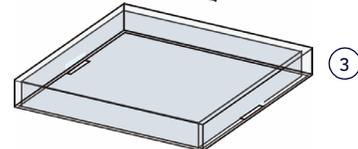

FIG. 3 INSTALLING THE KEY CAP ON THE PUSHBUTTON
- Install the Key Cap on the pushbutton (FIG. 3):